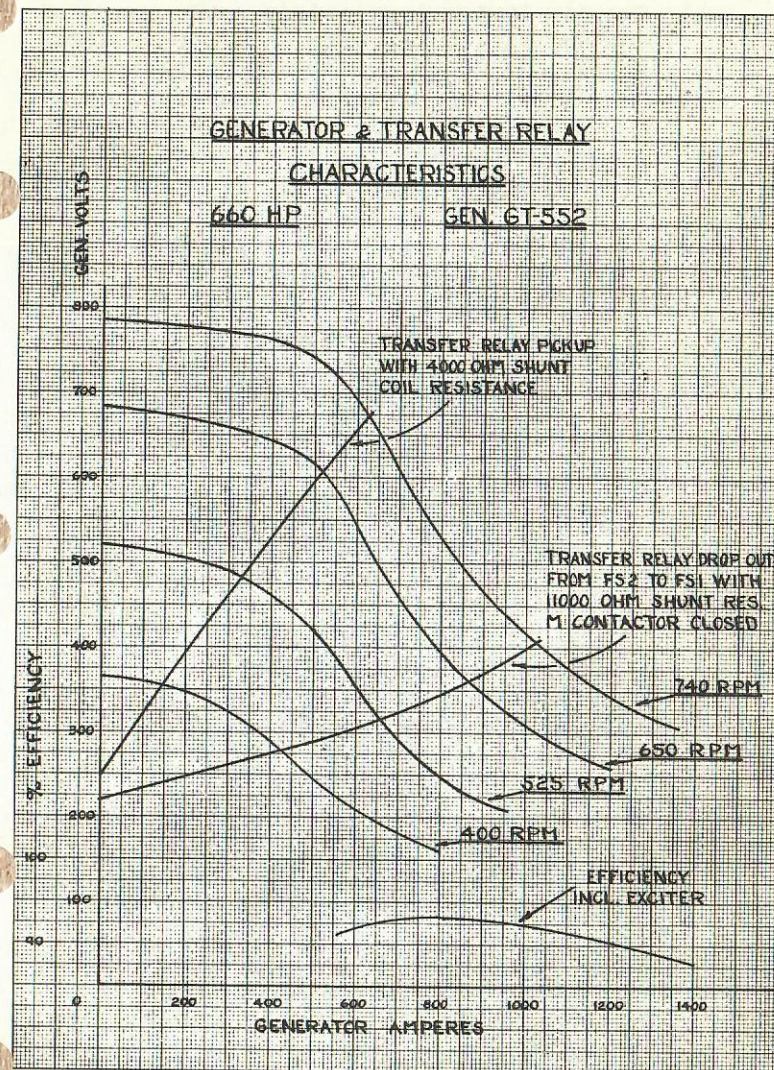

FIG. 97-1
5. For full load testing load the main generator starting in at 1400 amperes on the 660 HP locomotive, 1600 amperes on the 1000 HP locomotive. Always take generator characteristic readings starting at the high current end of the curve and proceed towards the "O" current end of the curve, Figs. 97-1 and 98-1.